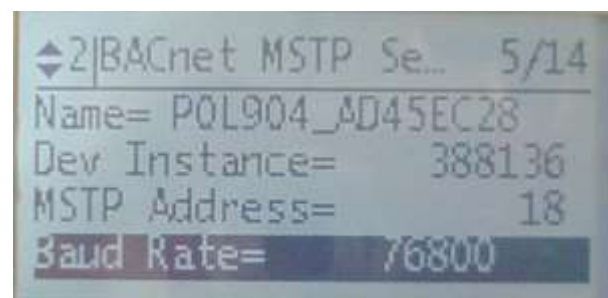

Figure 21. Unit Controller MSTP Setup Screen – Change Baud Rate
3. Navigate to the BMS Communication\BACnet MSTP Set-Up and change the baud rate to desired value (see Figure 21).